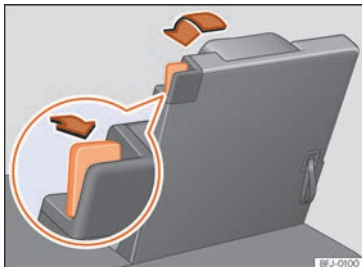

Fig. 157 Third row of seats: place the seat in loading floor position.
- Remove any objects located in the footwell in front of and behind the seat »» ❶.
- Pull the unlocking lever »» Fig. 157 to its rearmost position to unlock the seat backrest.
- Move the seat down with your hand until it is completely against the frame of the seat »» ❷.
- When the seat is in loading floor position, do not let anyone travel in it (not even a child) »» ❸.
- Pull the cord on the backrest of the seat »» Fig. 157 to lift the backrest. **OR:** lift the backrest with your hand from the cabin.
- The red marking on the unlock lever »» Fig. 157 must not be seen.
- Make sure that the seat backrest is correctly engaged by tugging from it and pressing »» ❹.
- A red mark on unlock lever »» Fig. 157 indicates that the seat backrest is not engaged. If the back rest is locked correctly, the mark is not visible.